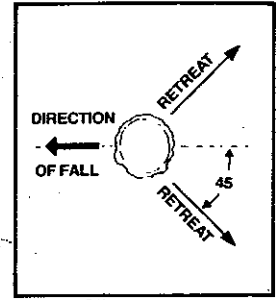

Figure 20
- h. **Plan a clear retreat path to the rear and diagonal to the line of fall.** Figure 20.